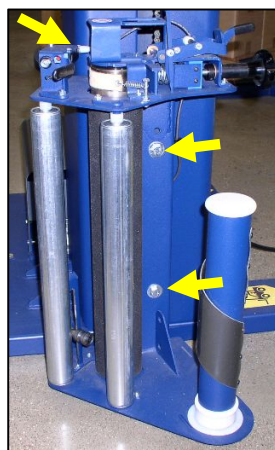

Figure 7.39
3. Use a 17 mm socket to remove the FDS (Figure 7.39).